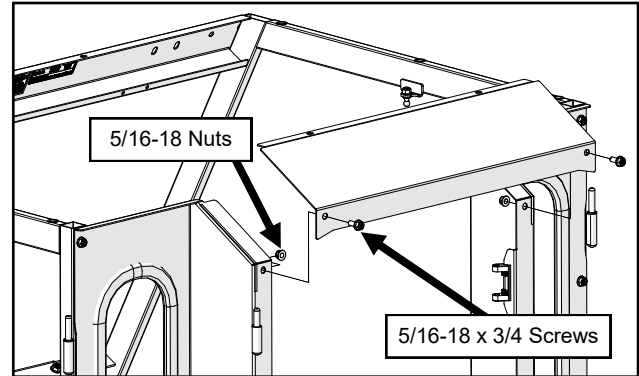

Fig. 12.1 (Install Upper Rear Cross)
12.1 Set the upper rear cross on top of the rear legs and loosely secure. See Figure 12.1.